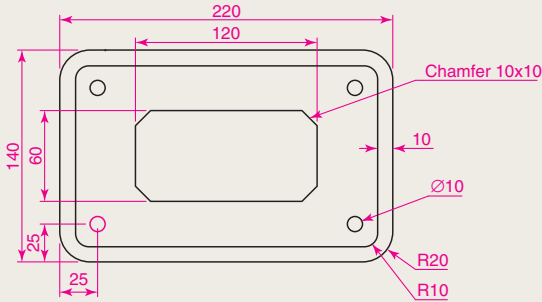

Fig. 6.28 Exercise 2
2. Construct the drawing Fig. 6.28 but in place of the given dimensions add dimensions showing tolerances of 0.25 above and below.